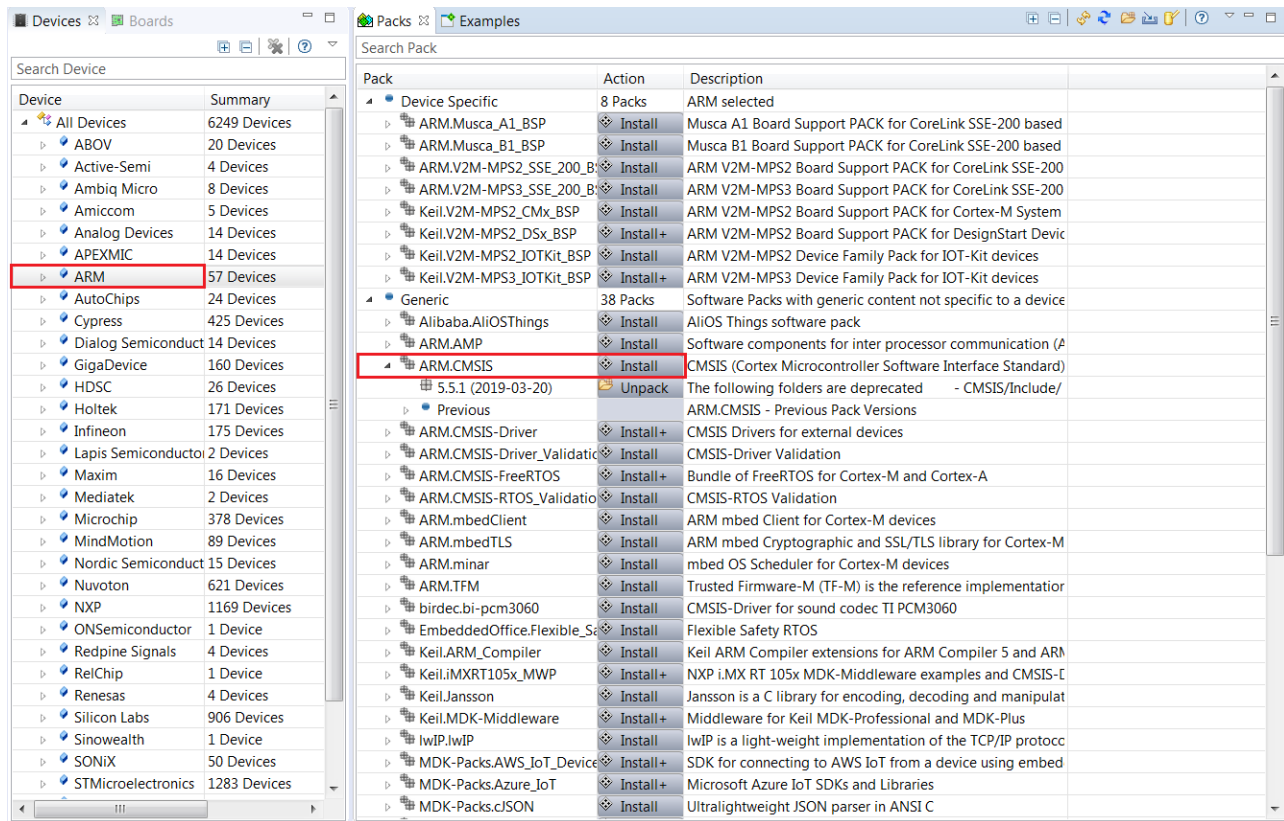

Figure 41. Installing the Arm CMSIS-Pack
The figure "Installing the Arm CMSIS-Pack" (Figure 41), below, shows an example of the Packs tab after checking for updates.
- To manually install a CMSIS-Pack, select the **Packs** tab and search for the required CMSIS-Pack (in this example, we installed the *ARM.CMSIS* pack); click the **Install** button (shown in the figure "Installing the Arm CMSIS-Pack" (Figure 41)). Alternatively, follow the next steps to automatically resolve any Pack dependencies that are missing.